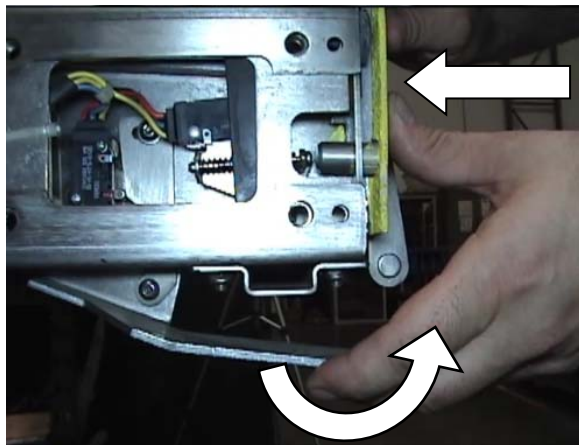

FIGURE 4-20: ROLLSTOP ACTUATOR
- 10) Refer to **Figure 4-20**. Close Rollstop by manually raising Rollstop Actuator Foot until its catch has a clearance above Rollstop engagement hook between 1/16" to 3/16" (as shown in **Figure 4-20**). Hold actuator foot at this gap.